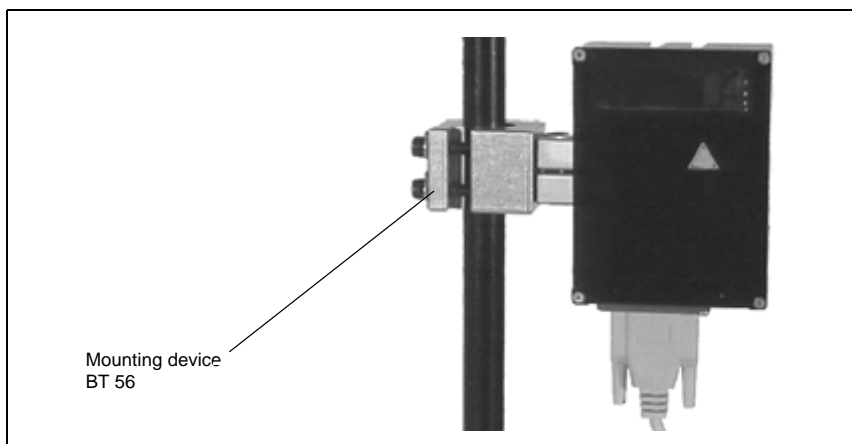

Figure 6.2: Mounting example BCL 31/32
- using the dovetail groove and the corresponding mounting accessories (see figure 6.2)